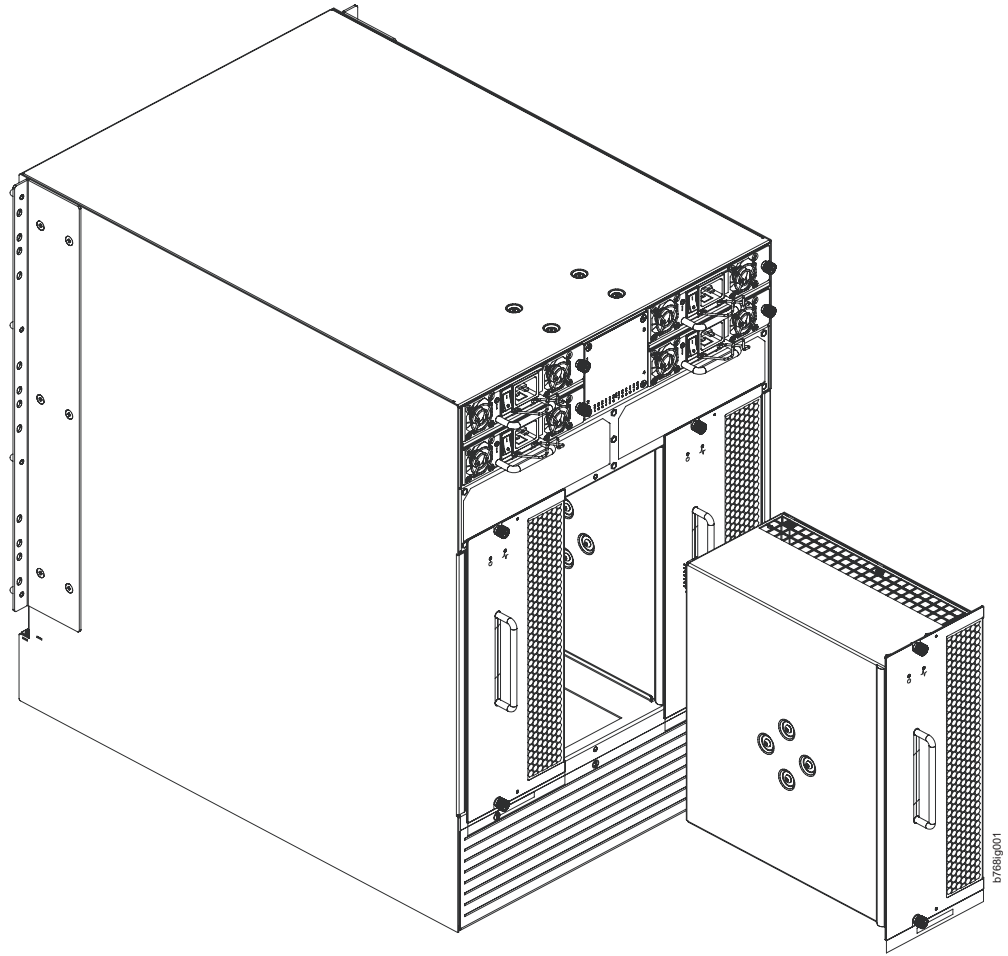

Figure 36. Removal and replacement of the blower assembly
2. Use the Phillips screwdriver to loosen the captive screws at the top and bottom of blower assembly (see Figure 36 on page 87).